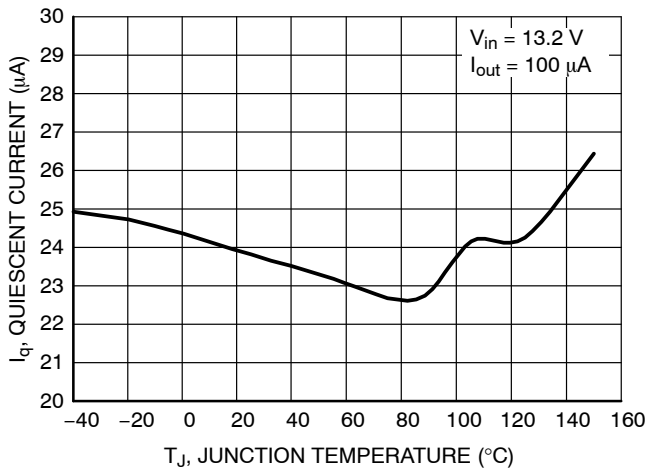
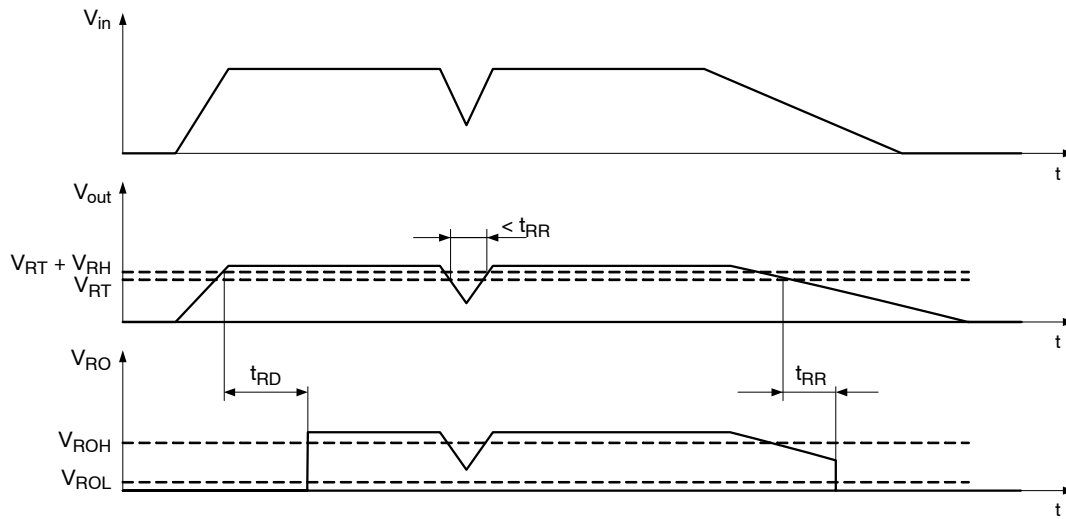

Figure 4. Quiescent Current vs. Temperature
Figure 24. Reset Function and Timing Diagram
The NCV8772 regulator is self-protected with internal thermal shutdown and internal current limit. Typical characteristics are shown in Figure 4 to Figure 24.
A reset signal is provided on the Reset Output (RO) pin to provide feedback to the microprocessor of an out of regulation condition. The timing diagram of reset function is shown in Figure 24. This is in the form of a logic signal on RO. Output voltage conditions below the RESET threshold cause RO to go low. The RO integrity is maintained down to $V_{out} = 1.0$ V. For 5 V voltage option, the Reset Output (RO) circuitry includes internal pull-up (30 k Ω) connected to the output (V_{out}). No external pull-up is necessary.